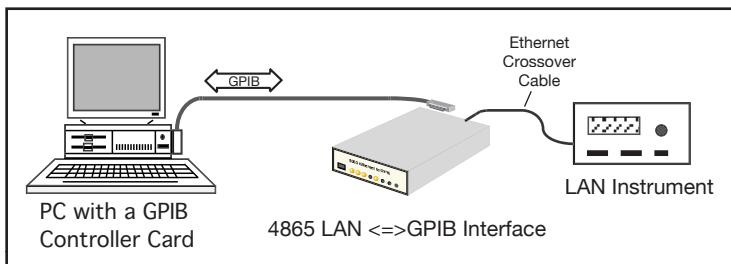

Figure 2-1 N4865A Direct Oscilloscope Connection
4. After configuration, the N4865A can be connected to its companion LAN oscilloscope with the supplied Ethernet crossover cable as shown in Figure 2-1. Plug the Ethernet cable into the RJ-45 receptacle on the N4865A's rear panel and to the oscilloscope's RJ-45 connector. Use a GPIB Cable to connect the N4865A to the GPIB Controller.